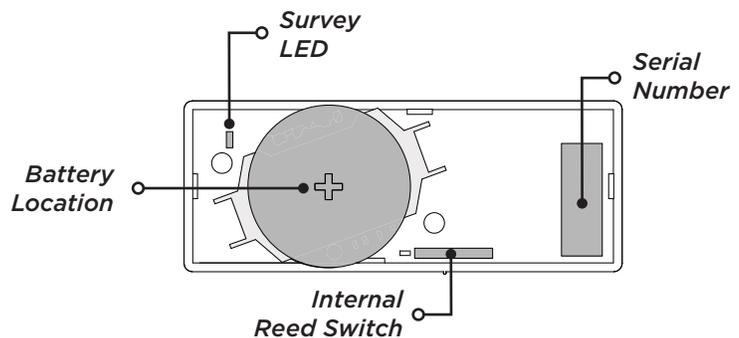

Figure 2: Battery Location and PCB Features
7. Enter the eight-digit **SERIAL#** and press **CMD**. See Figure 2 for the serial number location.
2. Observing polarity, place the battery in the holder with the positive (+) side up. Press it into place. See Figure 2 for the battery location.
2. Move the magnet away from the transmitter to send data to the receiver and determine if communication is confirmed or faulty. See Figure 2 for the LED location.